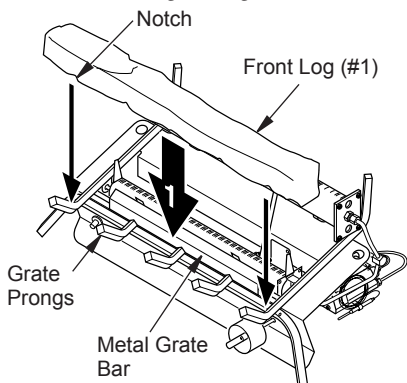

Figure 21 - Installing Front Log (#1) [18" Variable Manually-Controlled Set Shown]
1. Place front log (#1 for 18", #1a and #1b for 24" and 30") on top of the grate. Make sure the notches in the bottom of the log fits over the grate prongs (see Figure 21, page 18). Push back of logs flush with metal grate bar. Logs for 24" and 30" should fit with ends touching and a small realistic crack in the center.